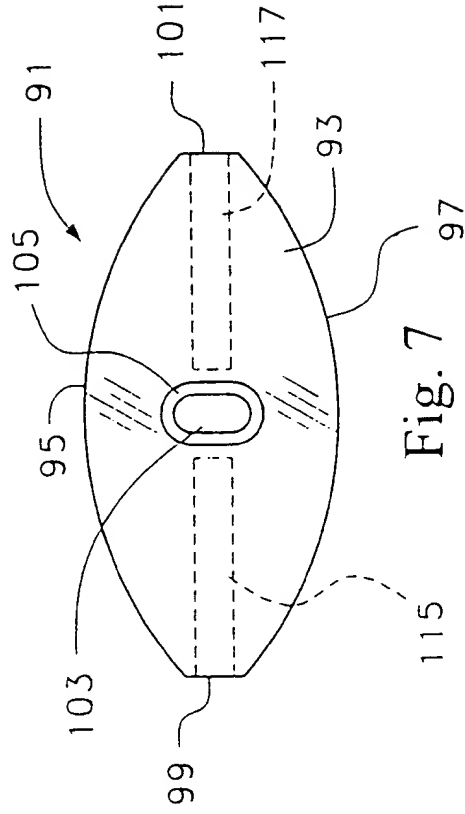

Fig. 7
extending downwardly from the hole (13) between the vertical support members for attachment of the anchoring biscuit device to a support board for anchoring and support of the two adjacent boards by screwing. This is shown in Figure 4, wherein present invention device (1) is anchored to support board (25) with screw (31). Top element right half biscuit portion (5) anchors beam (21) in cut-out (27). Beam (23) with cut-out (29), may be slid into place onto top element left side biscuit portion (7) and another present invention device applied to the opposite side of beam (23) in a similar fashion to repeat the anchoring technique. Figures 7 and 8 on the second page of Appendix B shows present invention biscuit device (91). This is the same as the Figure 1 device, but has an elongated elliptical orifice (103) with beveled edges (105). This enables a user to more easily connect both a top board and a beam simultaneously with a single screw by slant screwing, as shown on the third page in Figure 9 with present invention device (91) and screw (131) simultaneously connecting board (21) and support beam (25).